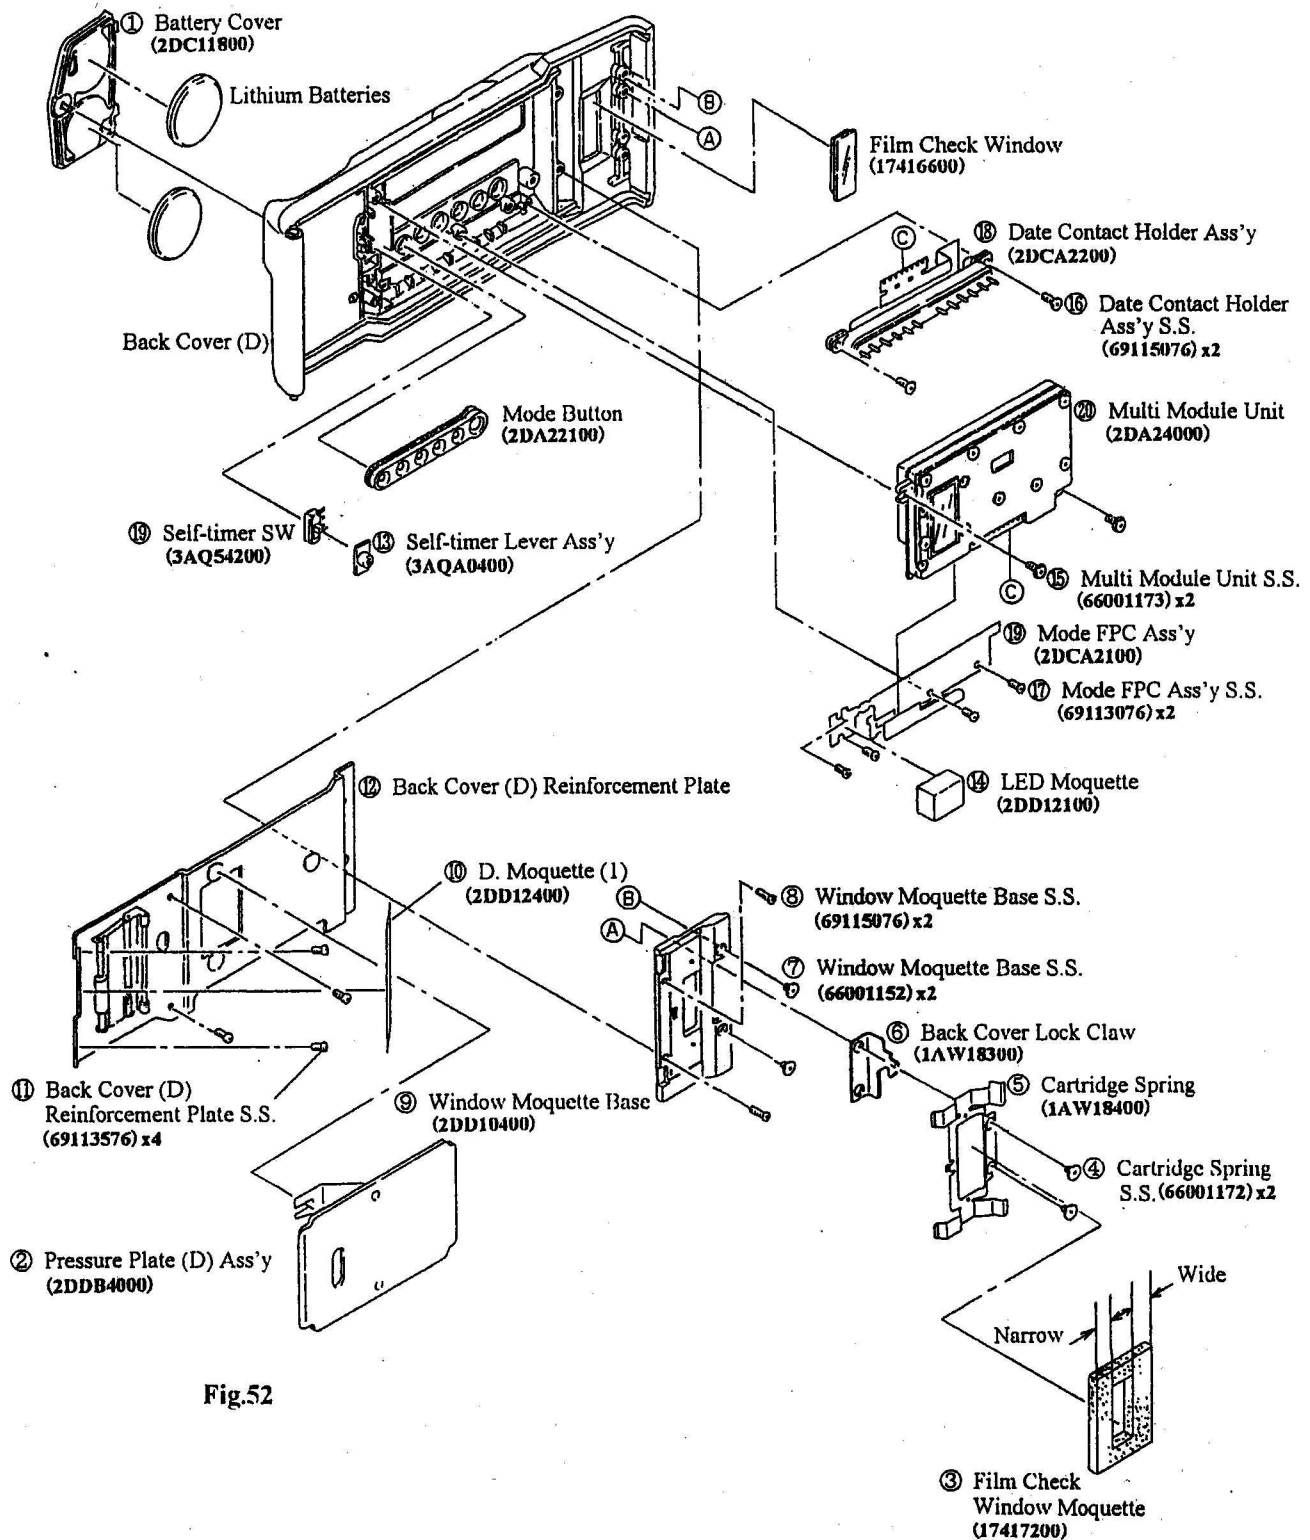

Fig.52
- 1) Remove the parts in the order of ① to ⑳ shown in Fig. 52.
- b) Stick the Film Check Window Moquette (17417200) in the position as shown in Fig. 52.
(See Fig. 52)